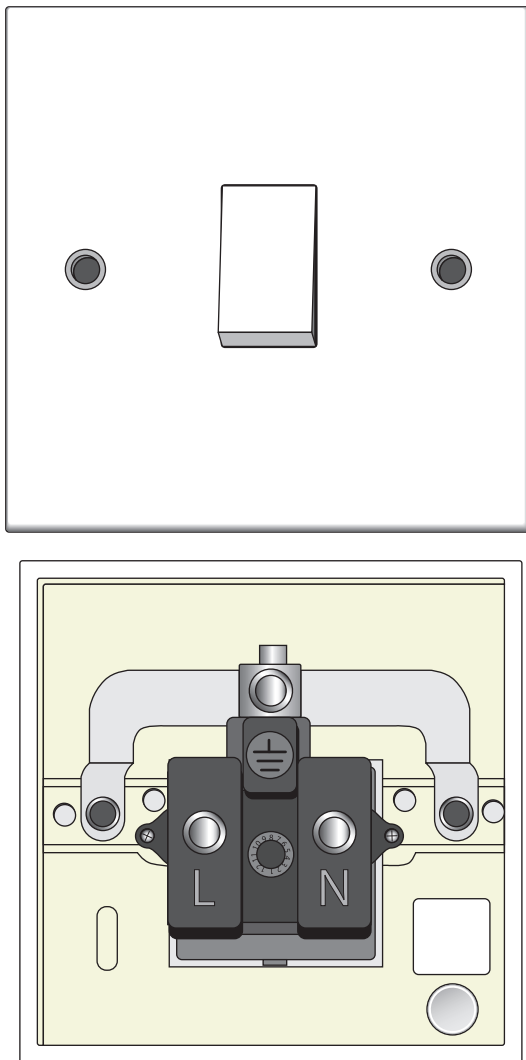

Figure 6-2:
2. Unscrew the switch from the back box and pull it out with the wires still attached, as shown in Figure 6-2.